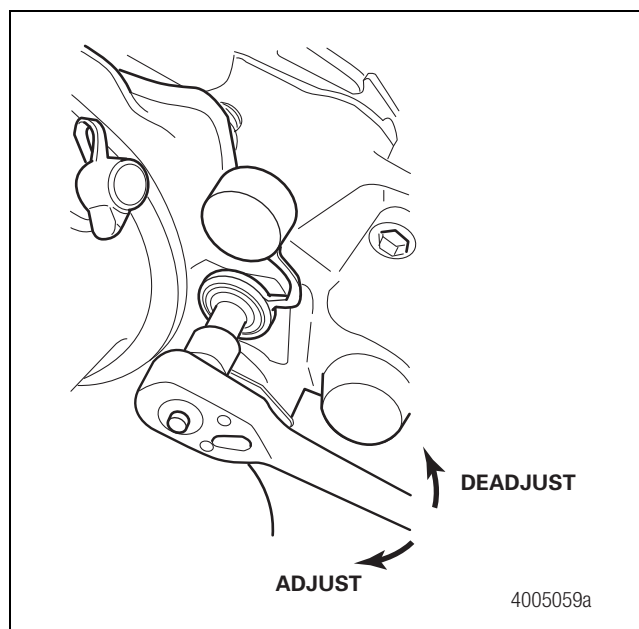

Figure 4.26
2. Use a 10 mm wrench to rotate the manual adjuster stem **CLOCKWISE** so that the brake pad-to-rotor clearance is **ZERO**. Figure 4.26.
3. Deadadjust the manual adjuster stem one half turn **COUNTERCLOCKWISE** to set the initial running clearance. Reinstall the adjuster cover. Figure 4.26.